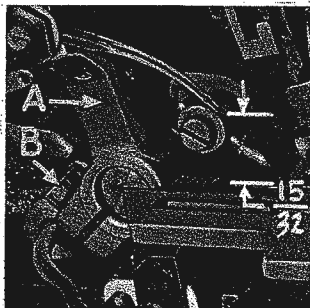

Fig. 4
With throat plate in position, needles should center in the front end of needle slot. When needles are at high position, the needle points should be set $\frac{15}{32}$ inch above throat plate (Fig. 4) for 39500 AC.
For 39500 AB, 39500 AE the needle points should be set $\frac{7}{16}$ inch above the throat plate. Move needle driving arm (A, Fig. 4) by loosening clamp screw (B). Remove throat plate.